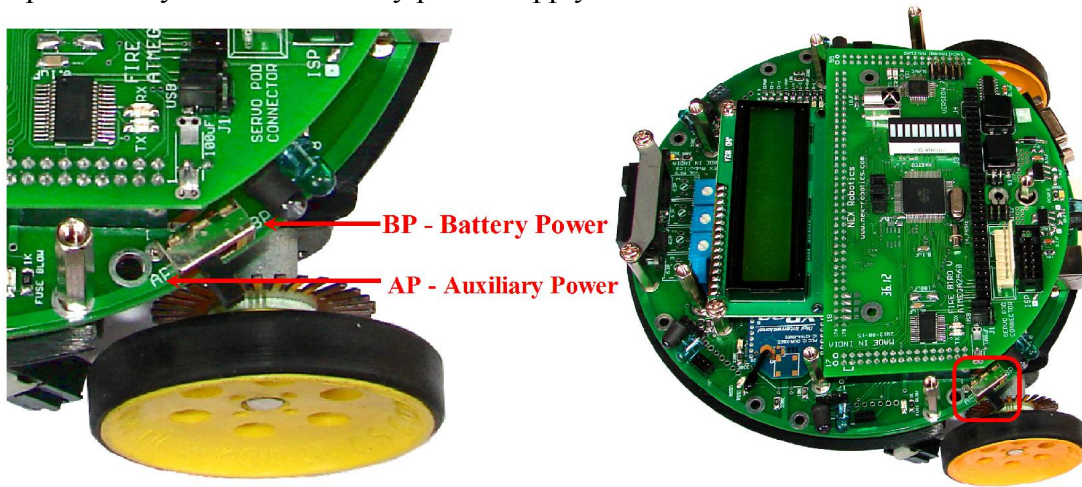

Figure 3.7: Power Switch
Figure 3.7 shows the power switch. Power switch can either be “BP” (Battery Power) or “AP” (Auxiliary Power) position. When auxiliary power or battery charger connector is not connected, robot can be turned ON when power switch is in BP position. Use of Auxiliary power to power the robot for extended amount of time will be covered in subsequent sections.
To turn ON the robot on the battery power, make sure that battery is connected to the robot and move the power switch towards back direction (BP) as shown in the figure 3.7